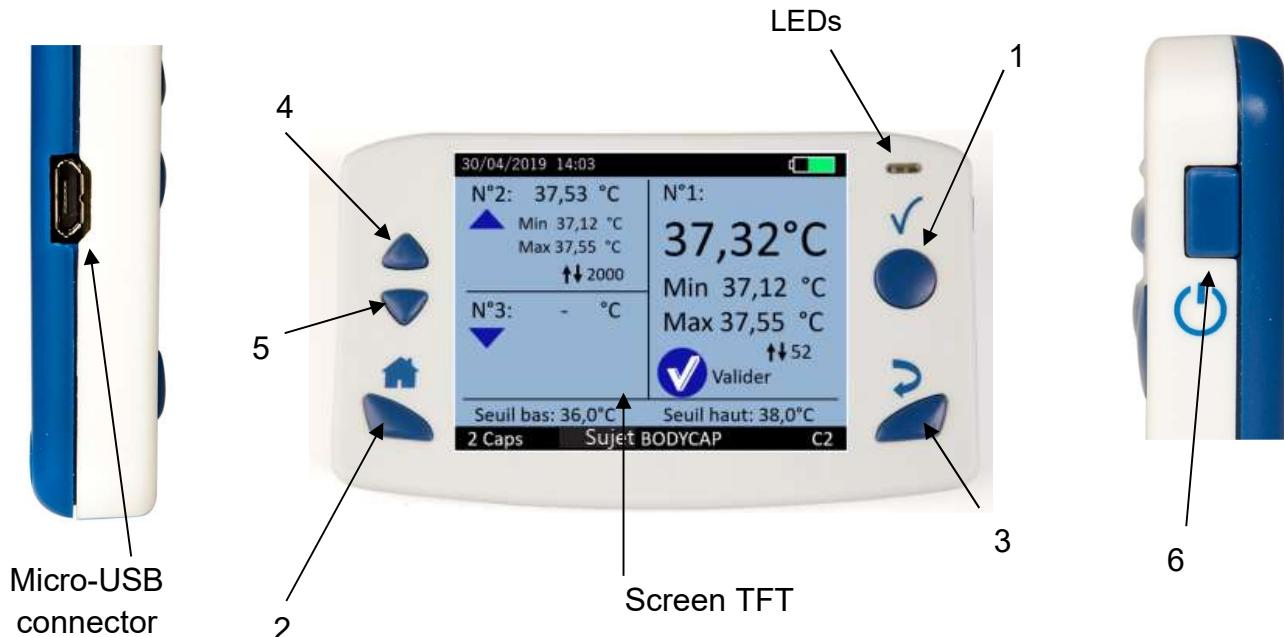

Figure 11: Description of the monitor e-Viewer Medical
The button Validate (ref. 1 Fig. 11)
The button Home (ref. 2 Fig. 11)
The button Back (ref. 3 Fig. 11)
The button Arrow up (ref. 4 Fig. 11).
The button Arrow down (ref. 5 Fig. 11).
The button sleep-wake of the screen (ref. 6 Fig. 11).
When the Green LED is lit, it means that the monitor is connected to a power source. Its battery is therefore being loaded. When the battery is fully charged, the green LED goes out. When the monitor is off, the orange LED lights to indicate that the pressure on the side button has been considered (ref 6 fig.11).